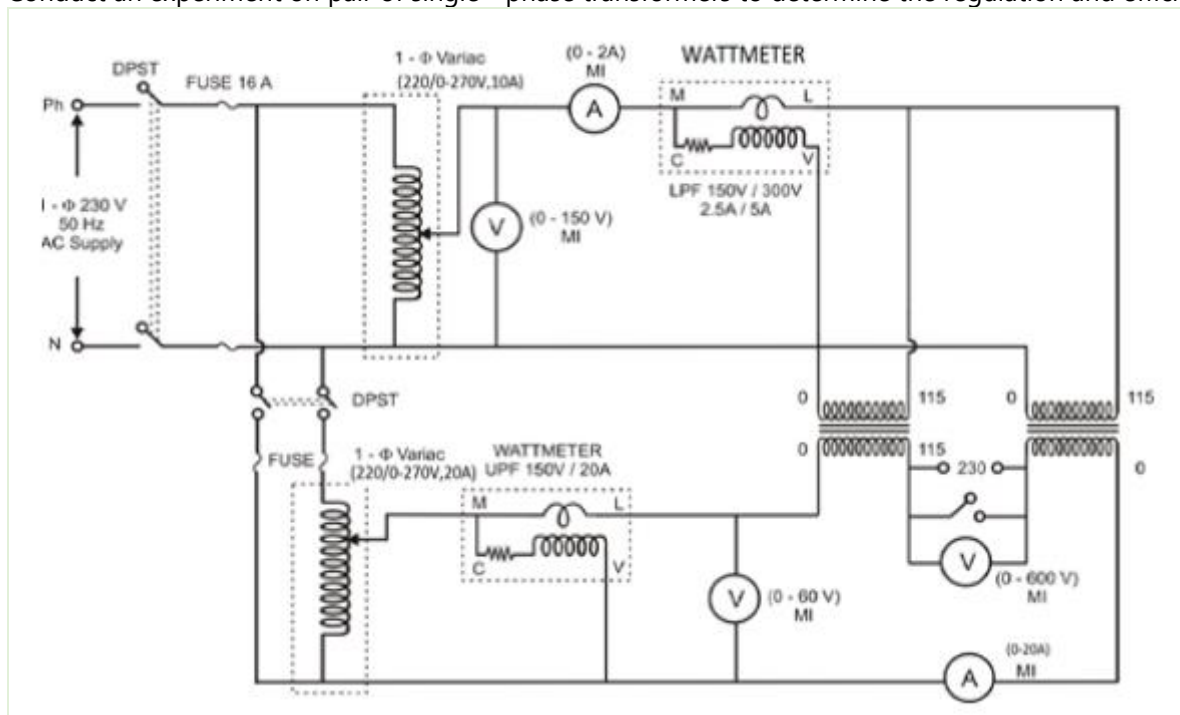

Figure 2 – Sumpner's test on a pair of single phase Transformers
2. Using short circuit characteristics calculate the short circuits current and determine the performance using SCC from Figure 2.
4. Calculate the circuit parameters like currents, voltages and power from Figure 2